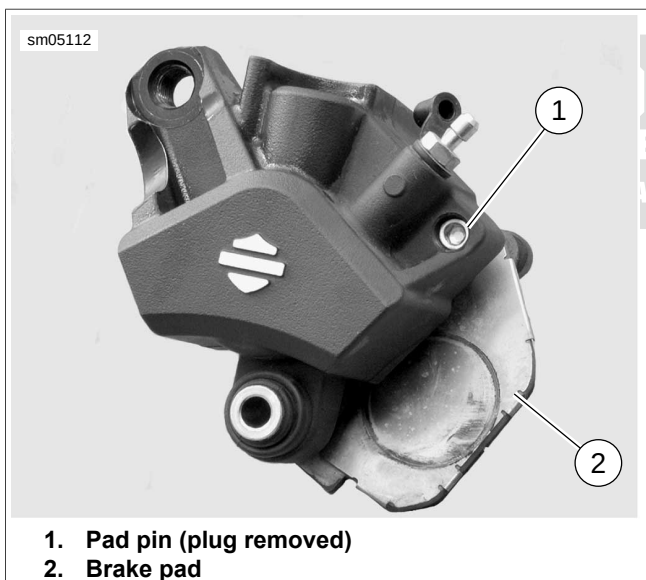

Figure 2-114. Pad Pin
1. See Figure 2-114. Remove brake pad pin plug to expose brake pad pin (1). Remove brake pad pin and pads (2).